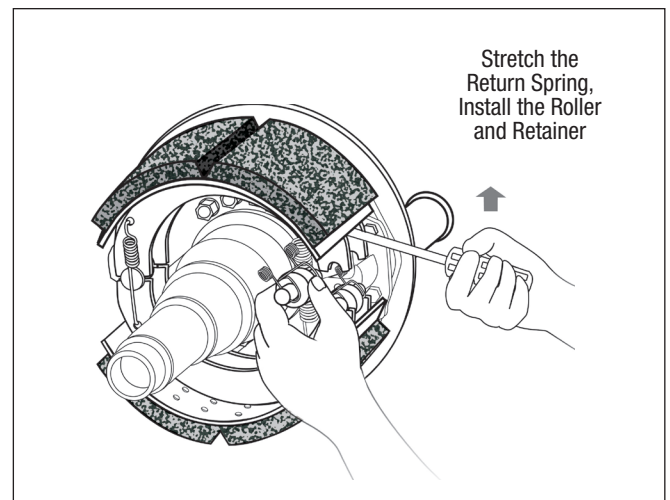
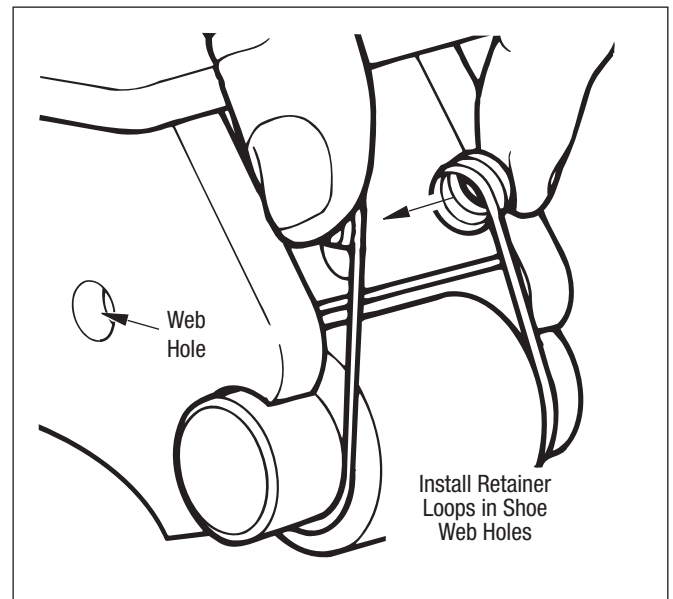

Figure 67 – Roller and Retainer Installation
Figure 68 – Retainer Installation
8. Using a lever or large screwdriver, stretch the shoe return spring to allow installation of the new roller and retainer assembly on the lower shoe web. Refer to Figure 67.
9. Position the roller and retainer in the shoe recess as shown in Figure 67. Squeeze the loops and swing the retainer into position to snap the loops in the shoe web holes. Refer to Figure 68. Verify that both retainer loops are engaged in the web holes before proceeding.
9. Using a lever or large screwdriver, stretch the shoe return spring to allow installation of the new roller and retainer assembly on the lower shoe web. Refer to Figure 67.